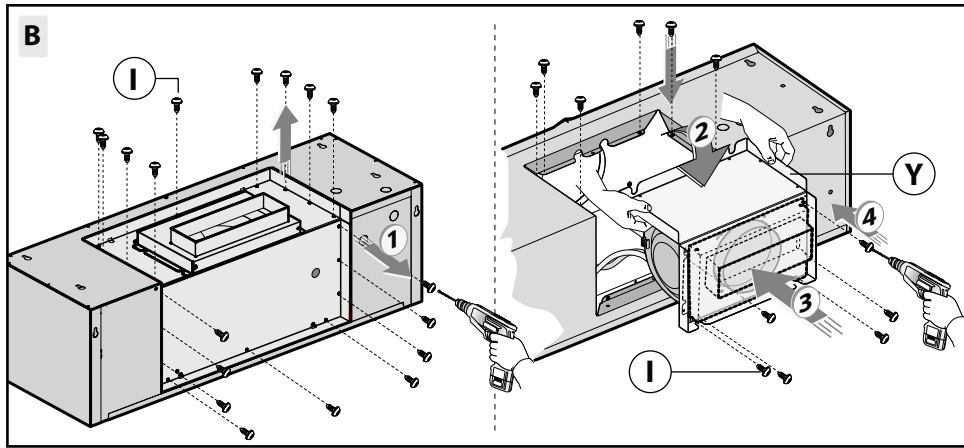

Fig.4
- **Version with air evacuation hole in the rear part of the hood (Fig.4):**